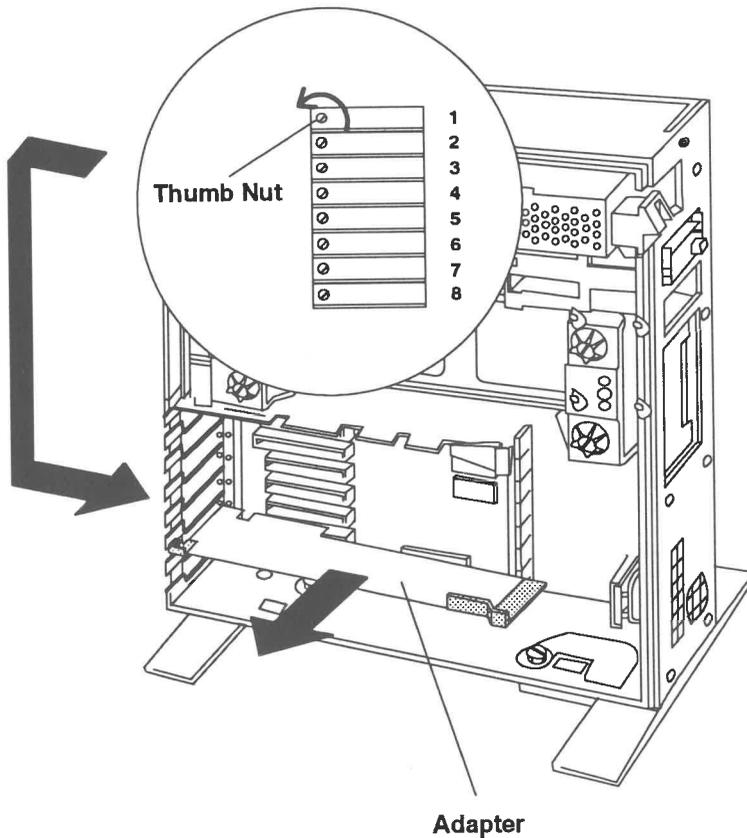

Figure 2-7 Adapter Removal/Installation
8. If adapters occupy any of the expansion Slots 1 through 8, remove them as follows (see Figure 2-7):
9. If adapters were originally installed in any of the eight expansion slots, install them in their assigned slots by following these steps (see Figure 2-7):